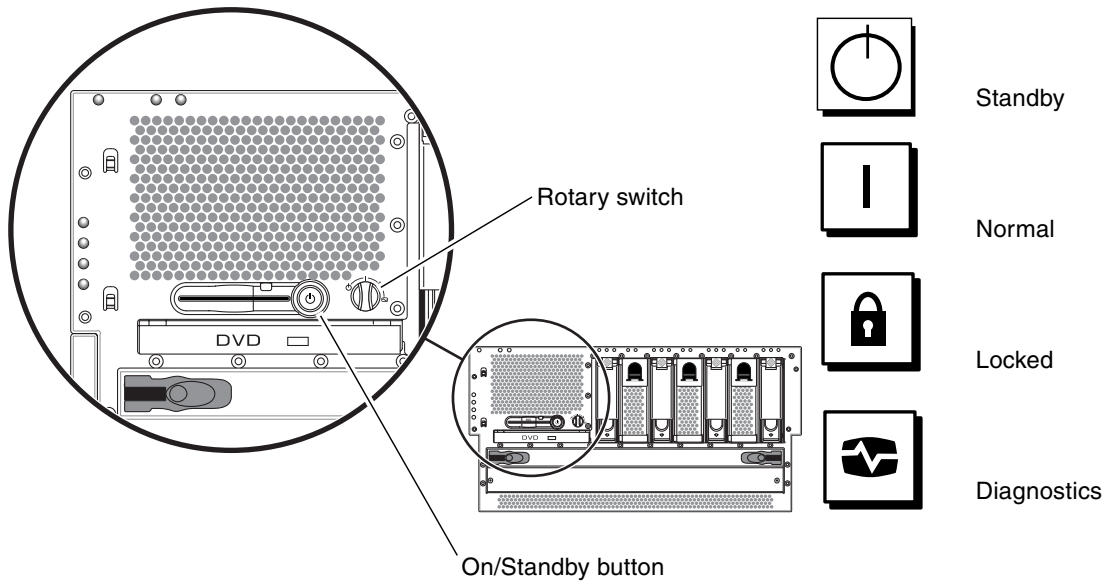

FIGURE 2-2 Locating the Rotary Switch and On/Standby Button
5. Turn the rotary switch to the Normal or Diagnostics position (FIGURE 2-2).
6. Press and release the On/Standby button to power on the system (FIGURE 2-2).
7. Turn the rotary switch to the Locked position (FIGURE 2-2).
4. **Ensure that the rotary switch is in the Normal or Diagnostics position (FIGURE 2-2).**
5. **Press and release the On/Standby button (FIGURE 2-2).**
7. **Turn the rotary switch to the Standby position (FIGURE 2-2).**
3. Turn the rotary switch to the Diagnostics position (FIGURE 2-2).
10. Turn the rotary switch to the Locked position (FIGURE 2-2).